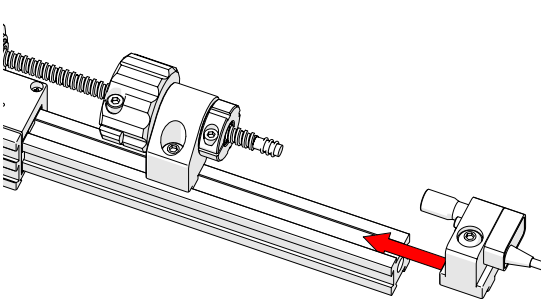
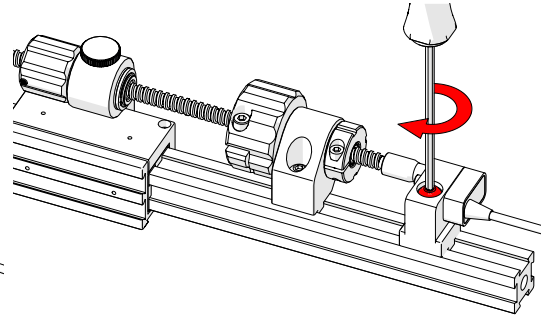

Fig. 65 - Loosen and slide post in place
Fig. 66 - Align and mount post
2. Slide the encoder's dovetail nut onto the frame bar (*Fig. 65*) and continue sliding the encoder towards the leadscrew until the leadscrew is pressed snugly into the encoder's coupling (*Fig. 66*).
3. Tighten the encoder's lock screw (*Fig. 66 - note red highlight*).